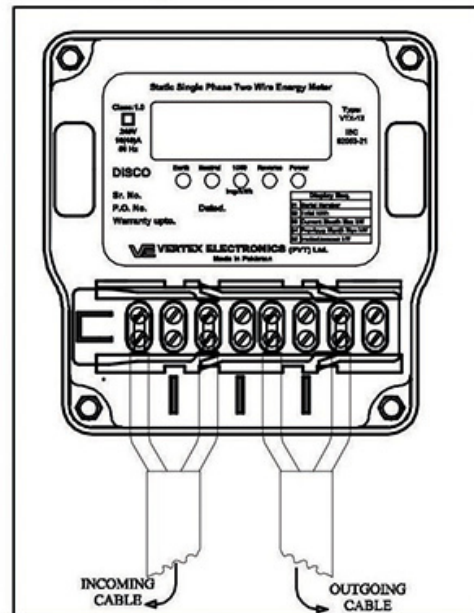

Fig:6
5. Unscrew the locking screw present on terminal sealing strip. Push the sealing strip into the meter box so that it covers all the terminal holes (this operation may require tapping on the strip with a plastic hammer See Figure 6).